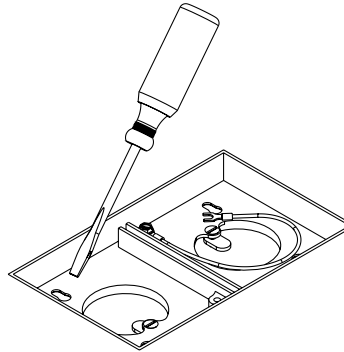

Figure 1
1. Using a flathead screwdriver or chisel, remove all excess concrete from the bottom of the preset (see Figure 1).